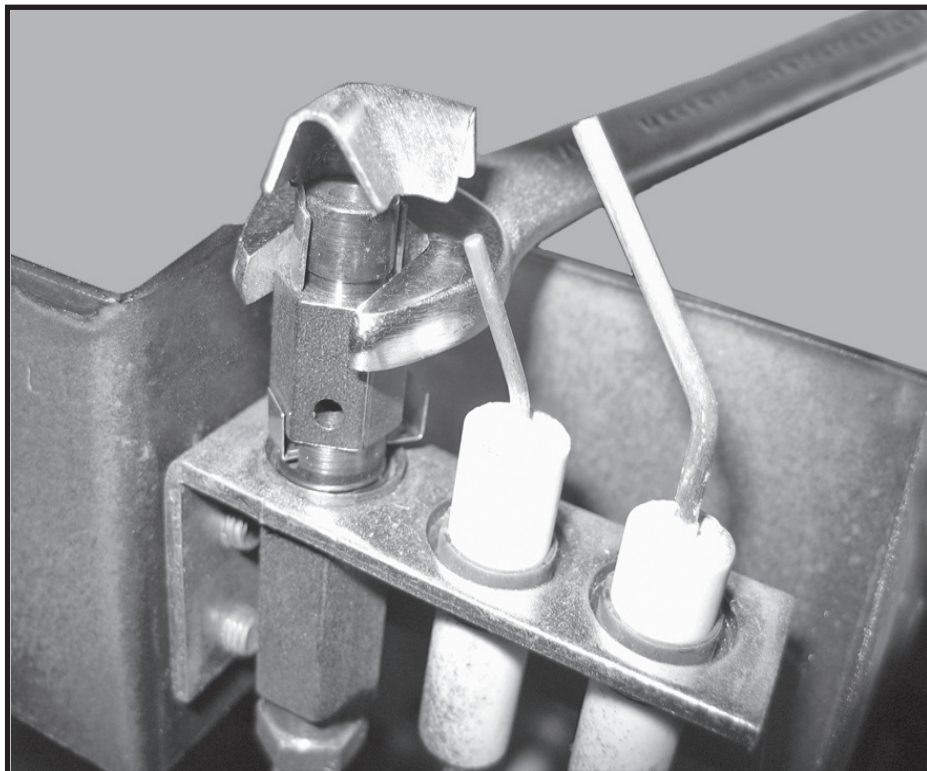

Figure 37: Loosening pilot shield.
11. With a 7/16" wrench, loosen the pilot head on the pilot assembly using a wrench to hold the bracket steady (Figure 37).